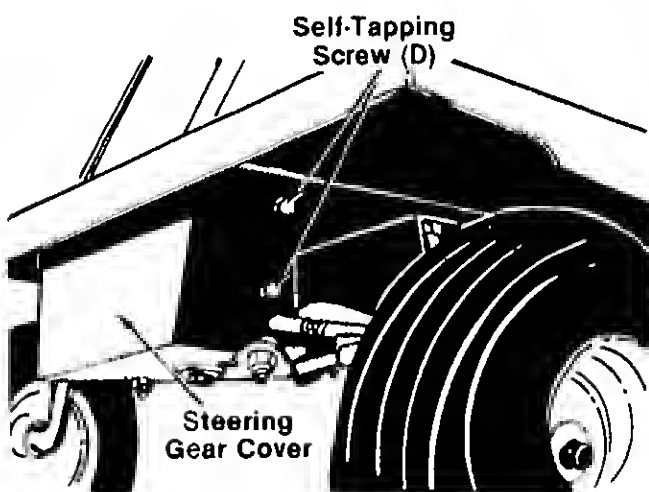

FIGURE 6.
10. Install the **steering gear cover** as shown in figure 6, to cover the underside of the steering mechanism. Secure with two **self-tapping screws (D)** on each side of the cover. Do not completely tighten any of these screws until all four of them are positioned correctly.